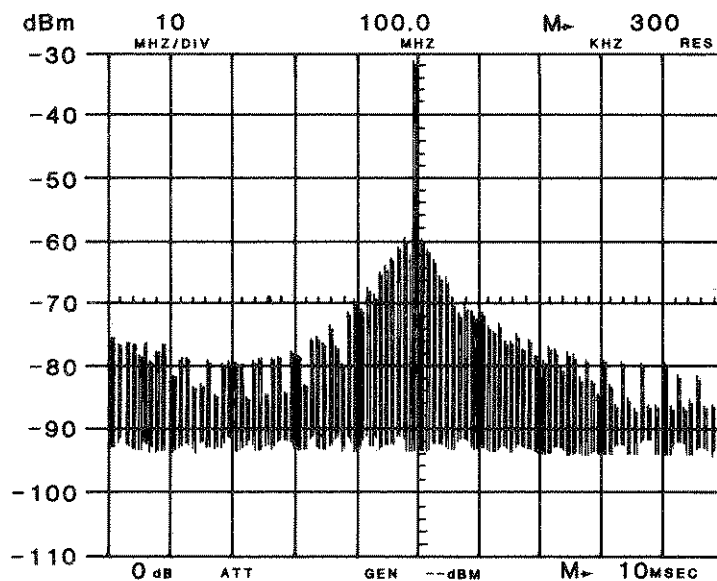

Figure 8-9 Signal of Interest at 100 MHz
6. Use the IF GAIN and/or the RF ATTN keys to position the signal with its peak close to, but not above, the top graticule (see Figure 8-9).